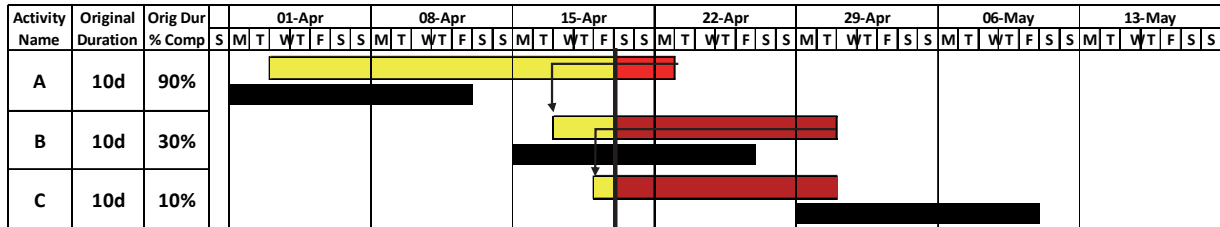

Figure 6 - Impacted with Actuals and out of sequence logic not being acknowledged.
In Figures 6, 7 & 8 below the schedule has been updated with “out of sequence logic” that is not acknowledged in the CPM calculations:
- In Figure 6, the Primavera **Progress Override** scheduling option has been used; the Microsoft Project **Split In-progress** option and the Asta Powerproject **Move part completed links** have not been used;
Figure 6 shows Activities A, B & C with far greater concurrency than originally planned. This is a reason why many owners forbid the use of the Progress Override scheduling option.